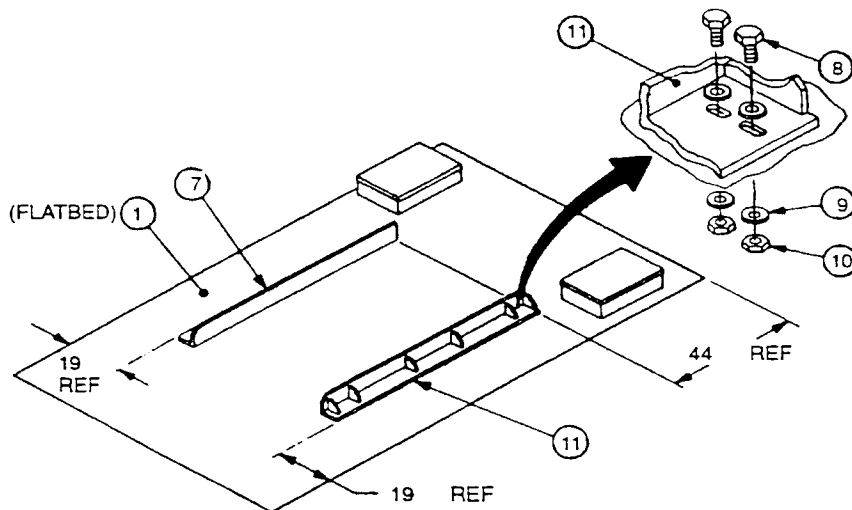

Figure 4-2 Tank Mounting Angle Installation.
(4) Tank Mounting and Angle Installation.
(a) Orient and position tank mounting angles, (7) and (11), on flatbed at approximately 44 inches from front edge and 19 inches from side edge in pre-existing mounting holes. See Figure 4-2.
(b) Loosely attach angles to flatbed using eight bolts, (8), sixteen washers, (9), and eight nuts, (10) Figure 4-2. Move angles outboard (on flatbed) as far as slots (in angles) will permit.